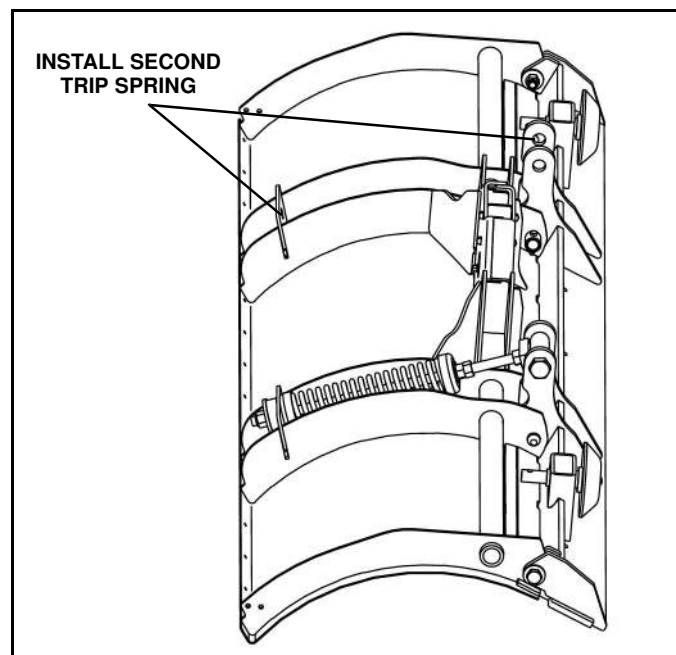

Figure 2-11
17. Repeat these steps to install the second trip spring on the opposite side of the blade (See Figure 2-11)